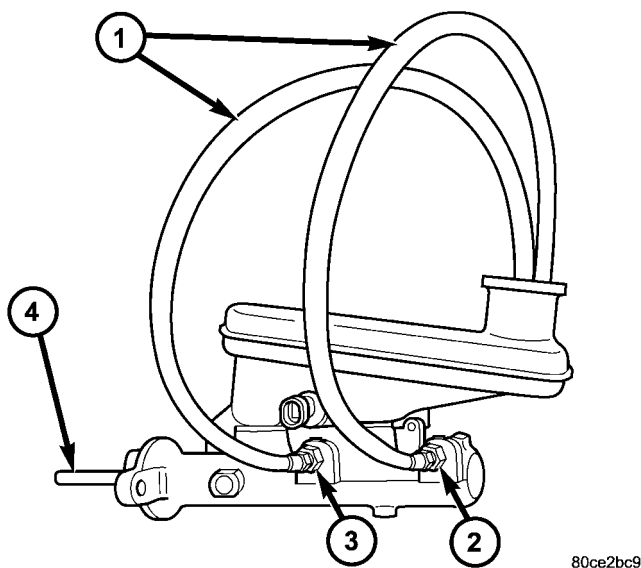

Fig. 65 Master Cylinder Set Up For Bleeding
(c) Thread one Bleeder Tube, Special Tool 8358-1, into each Adapter. Tighten each tube to 17 N·m (145 in. lbs.) torque. Flex bleeder tubes and place open ends into mouth of fluid reservoir as far down as possible (Fig. 65).
(3) Fill reservoir with Mopar® Brake Fluid or equivalent conforming to DOT 3 specifications. Make sure fluid level is above tips of bleeder tubes in reservoir.
(4) Using a wooden dowel as a pushrod (Fig. 65), slowly depress master cylinder pistons, then release pressure, allowing pistons to return to released position. Repeat several times until all air bubbles are expelled. Make sure fluid level stays above tips of bleeder tubes in reservoir while bleeding.
(5) Remove bleeding tubes. Plug outlets and install filler cap.
(6) Remove master cylinder from vise and install on power brake booster. (Refer to 5 - BRAKES/HYDRAULIC/MECHANICAL/MASTER CYLINDER - INSTALLATION)